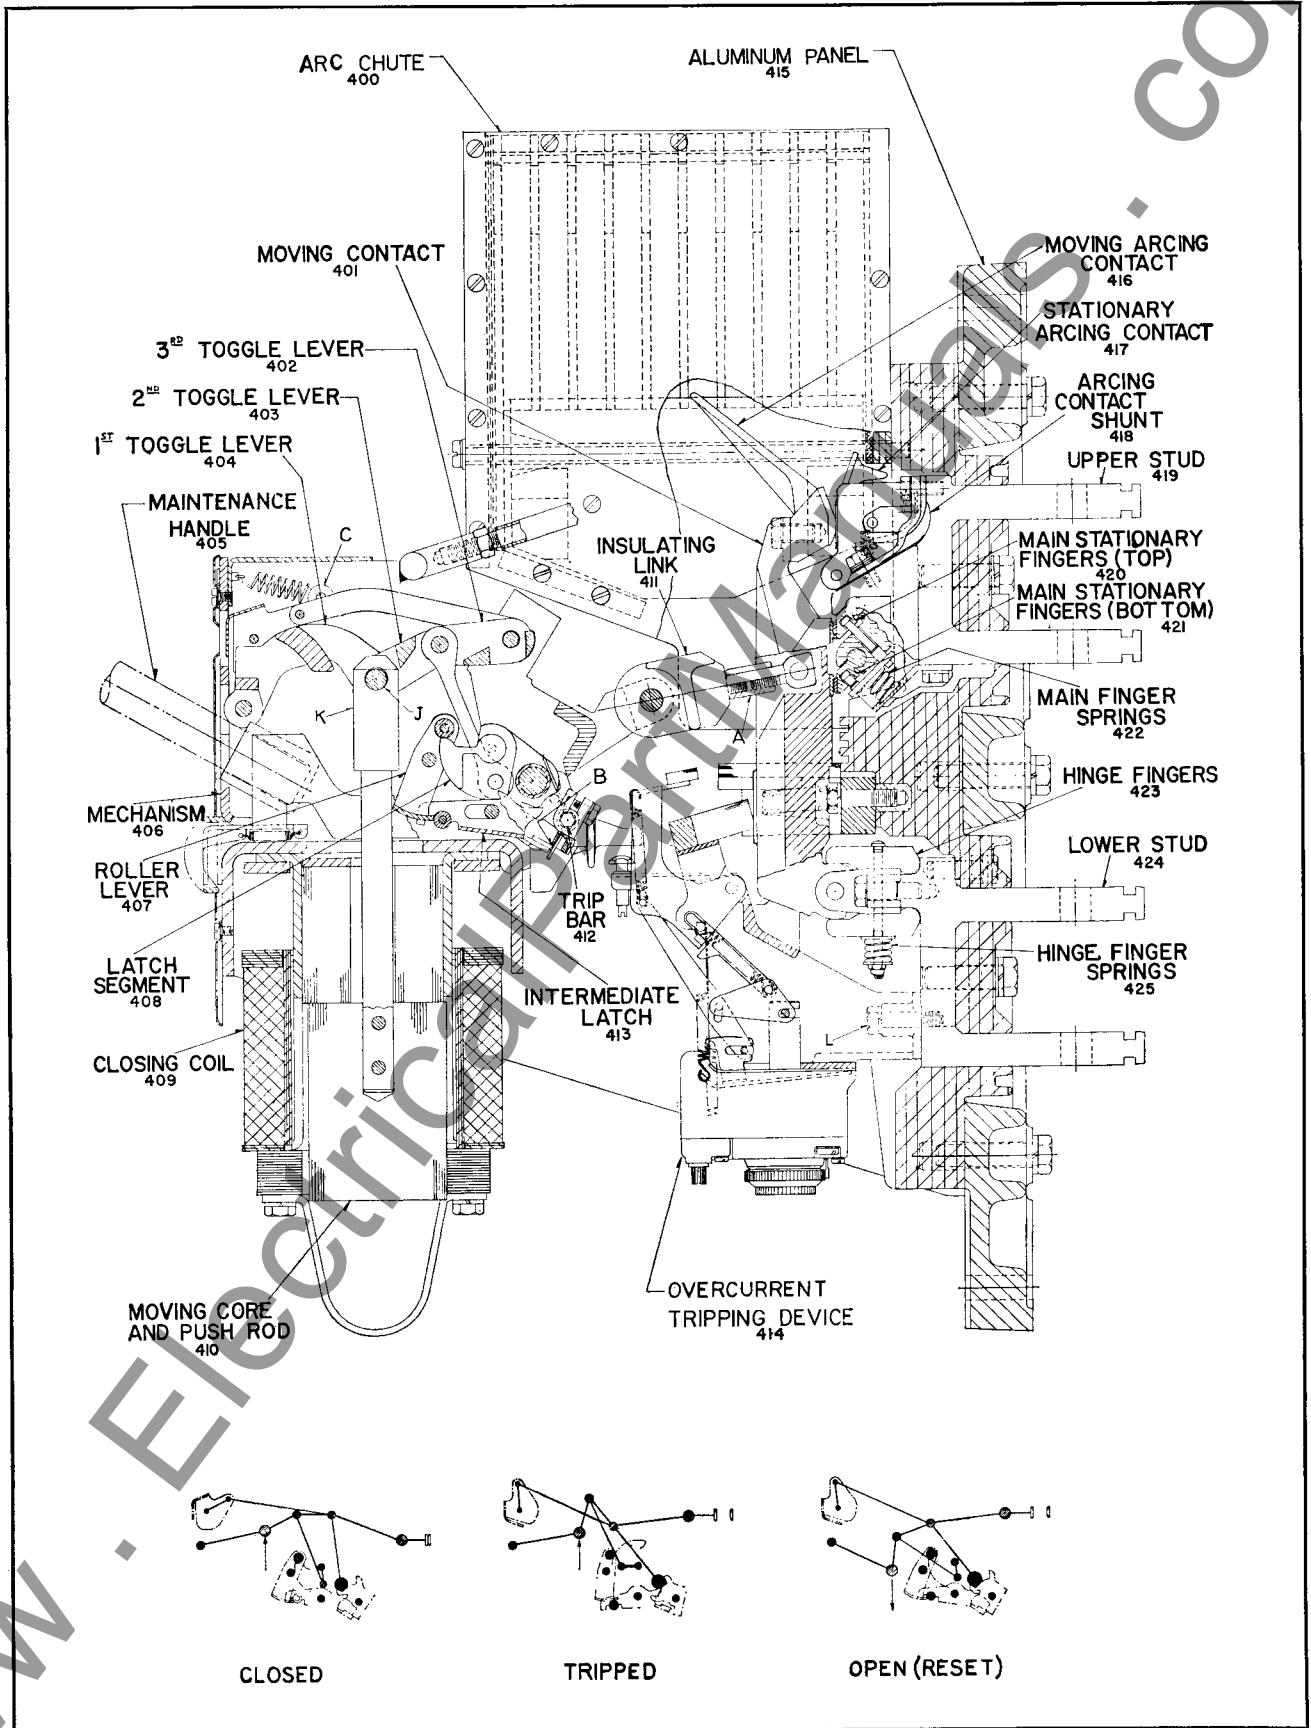

FIG. 3. Cross-Sectional View of Air Circuit Breaker
Each pole unit (Fig. 3) is mounted on a separate molded base. The molded bases are attached to the mounting panel and provide insulation for the breaker studs.
**Contacts.** (See Fig. 3.) The arcing contacts must touch first on closing and open last on opening.
7. Before assembling mechanism check sliding surfaces of two latches shown at "B", Fig. 3. These surfaces must be clean, free of burrs, and have not more than .035 inch clearance in the reset position.